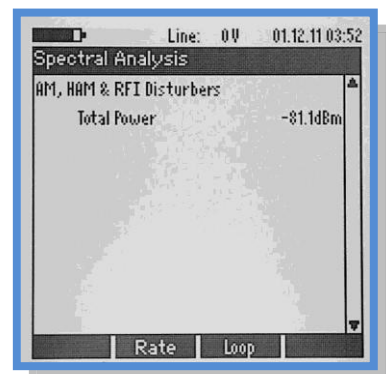

Figure 7 - Dr DSL Quantifies the Possible RF Interference It Found.
Spectral Interference – Crosstalk and external radio (RF) interference are projected in the spectrum screen. Figure 7.